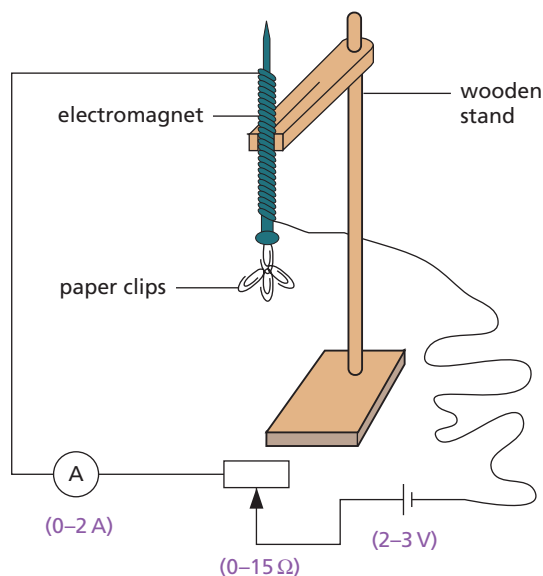

Figure 45.5
- Leave about 25 cm at one end of the wire (for connecting to the circuit) and then wind about 50 cm as a single layer on the nail. **Keep the turns close together and always wind in the same direction.** Connect the circuit of Figure 45.5, setting the rheostat at its maximum resistance. Find the number of paper clips the electromagnet can support when the current is varied between 0.2 A and 2.0 A. Record the results in a table. How does the 'strength' of the electromagnet depend on the current?